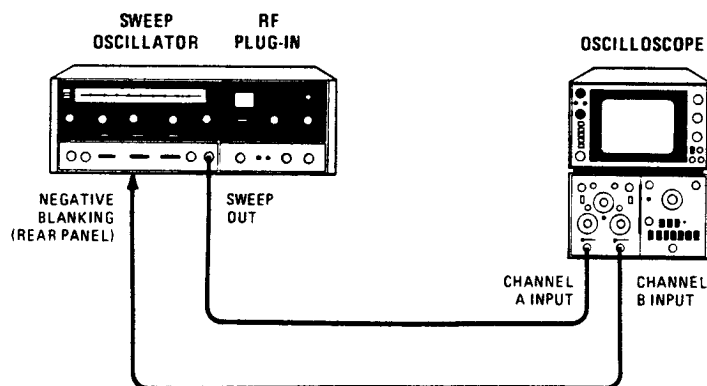

Figure 4-3. Sweep Time Adjust and Stop Sweep Test Setup
- Connect equipment as shown in Figure 4-3.